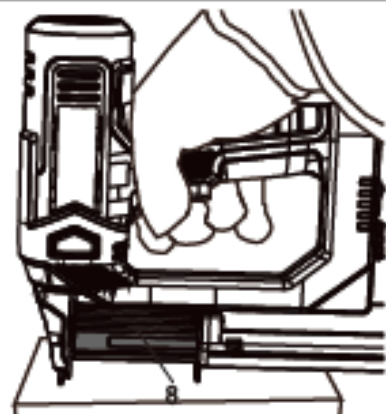

Fig. 14
8. Keep the magazine (8) open and switch on the product after connecting with the power supply, attempting to fire 3-4 times on a piece of scrap soft wood (Fig. 14).
9. Load the magazine (8) with the nail strip (16) and attempt to fire 3-4 times on a piece of scrap soft wood.